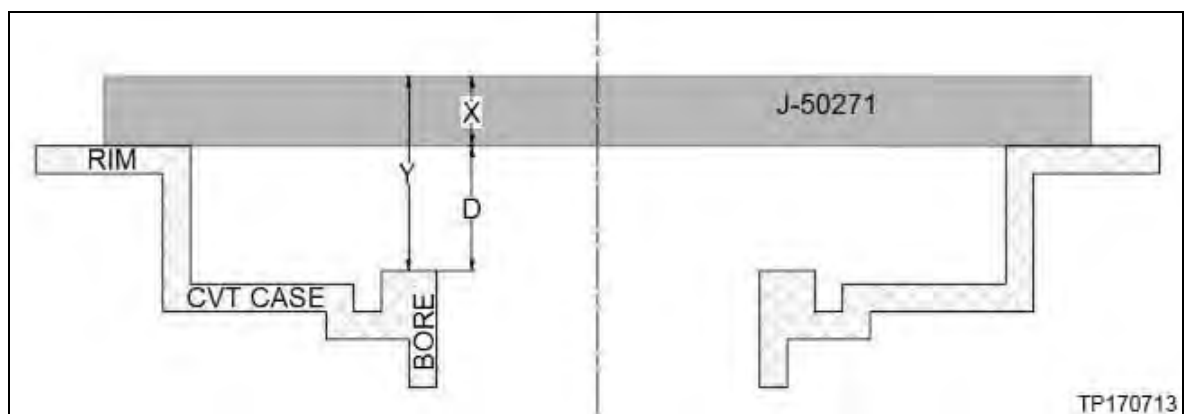

Figure 5M
NOTE: Only if a Gauge Block (J-50271) is not available, measurement "X" (Figure 5M, page 55) will need to be determined for the measuring bar being used. This can be done either with a set of calipers or with Digital Depth Gauge (J-50272).
8. Measure the average distance (Y) shown in Figure 5M as follows: